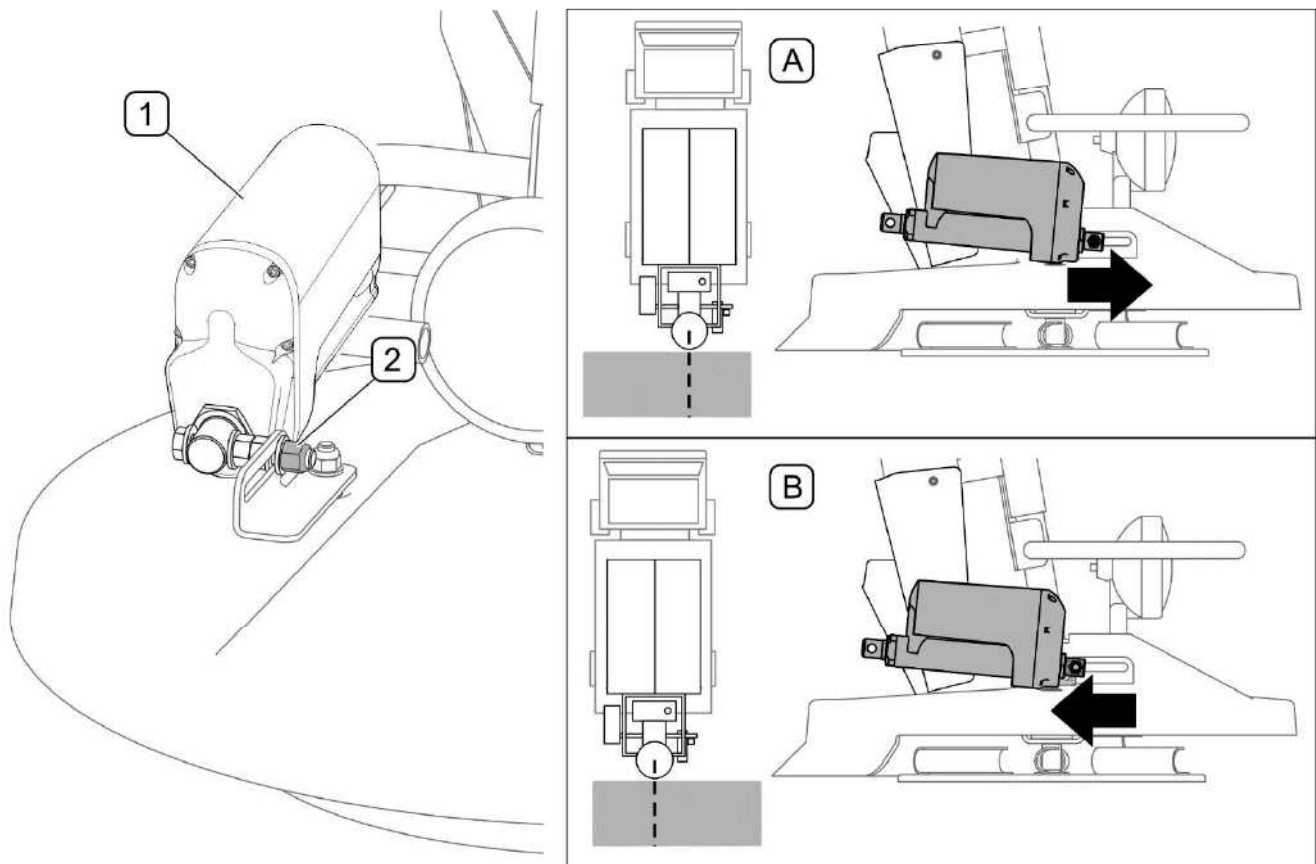

FIG. 5.15 Adjustment of spreading mechanism
In order to adjust the spreading mechanism, set symmetric 4 meter-wide spreading zone on the control panel. Activate spreading and drive a short distance at a constant speed. Stop the vehicle and check effect of spreading. If spreading to the right side and to the left side is not the same, adjust spreading direction adjusting cylinder (1) (FIG. 5.15) as follows:
- Loosen nut (2).
- Move cylinder (1) forwards if spreading zone is excessively shifted to the left (A).
- Move cylinder (1) backwards if spreading zone is excessively shifted to the right (B).
- Tighten nut (2), conduct test spreading, if necessary, repeat the adjustment.